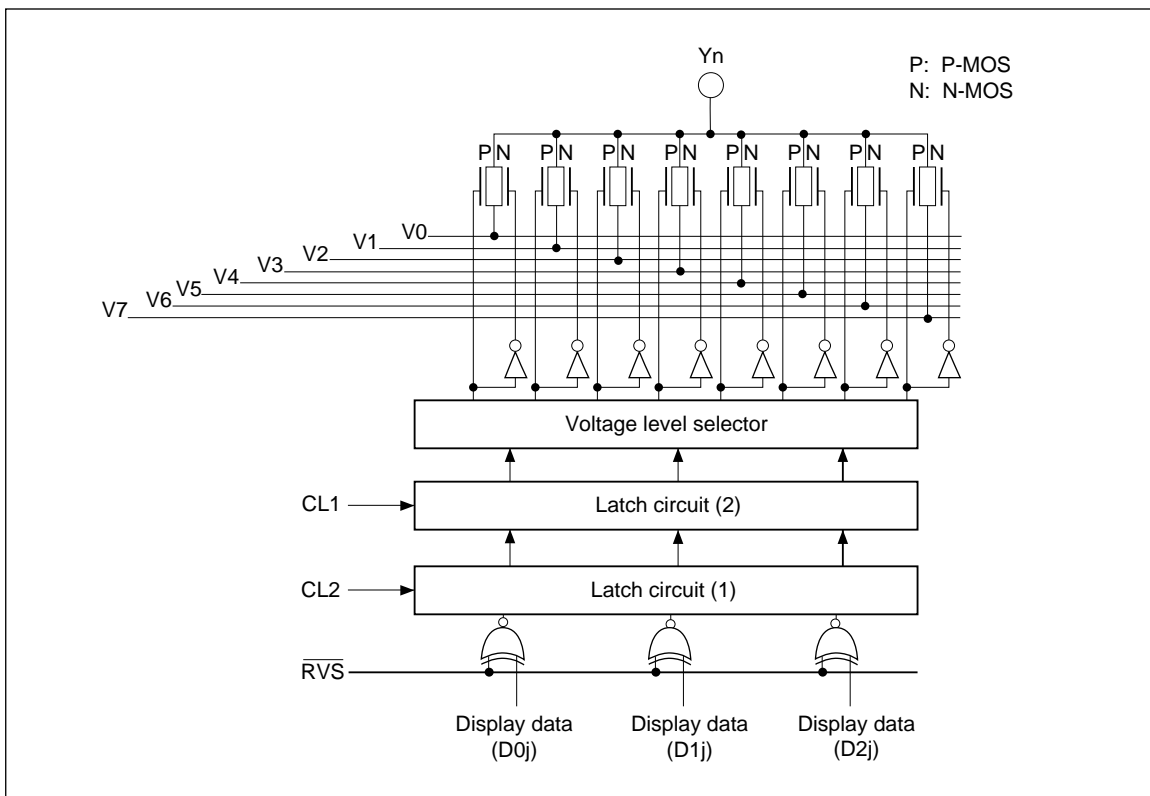

Figure 4 LCD Driving Circuit
The HD66310 internal circuit unit for one data output is shown in figure 4. The circuit receives 3-bit data ($D0_j$, $D1_j$, $D2_j$) and selects one of eight voltage levels ($V0-V7$) to output to the LCD.
- As shown in figure 4, the data reverse circuit is before the latch circuit (1). The LCD driving output is reversed one CL1 period after a transition of the \overline{RVS} signal, as shown in figure